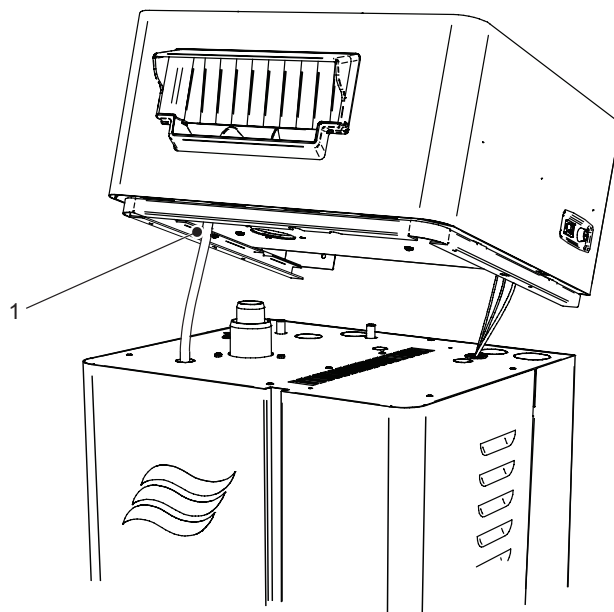

Figure 22: Condensate Hose Connection on Blower Pack
- c. Form a trap with a diameter of 150 mm in the 8/12 mm diameter condensate line, and prime it with water. Then route the other end of the condensate hose through the knockout hole in the top of the humidifier – refer to Figure 22 on page 38. Connect the hose to the blower pack condensate port and secure it with a spring clamp (supplied). Make sure that the hose is not kinked.